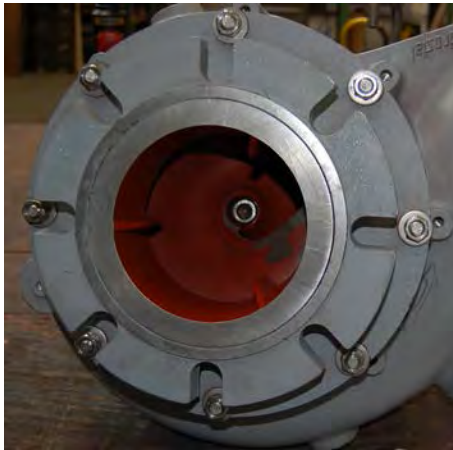

Fig. 37
3. ➔ If necessary, hose down pump with water and lay on side (Fig. 37).